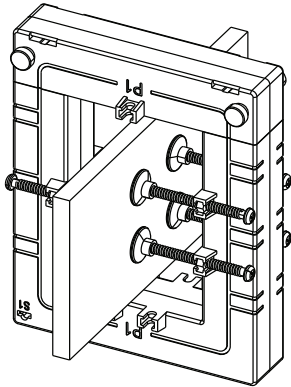

Figure 3 Busbar Clamped After Installation
2. Tighten screws evenly until the pressure washers clamp the busbar firmly and the busbar cannot move as shown in Figure 3 and 4.